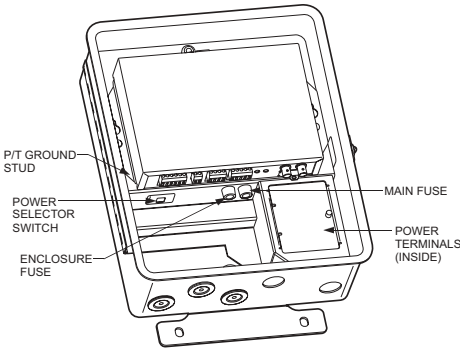

Figure 2. ERD2200 Receiver
1. Fuses are installed for 115 VAC operation. For 230 VAC operation, install the appropriate fuses (supplied). Refer to Figure 2.
2. Set the power selector switch to either 115V or 230V to match your input power. Refer to Figure 2.
3. Loosen the thumbscrew and lift out the door protecting the power terminals (refer to Figure 2).
- Connect the pan/tilt controls (up, down, left, right, and common). Refer to Figure 2 for connection of P/T ground wire.